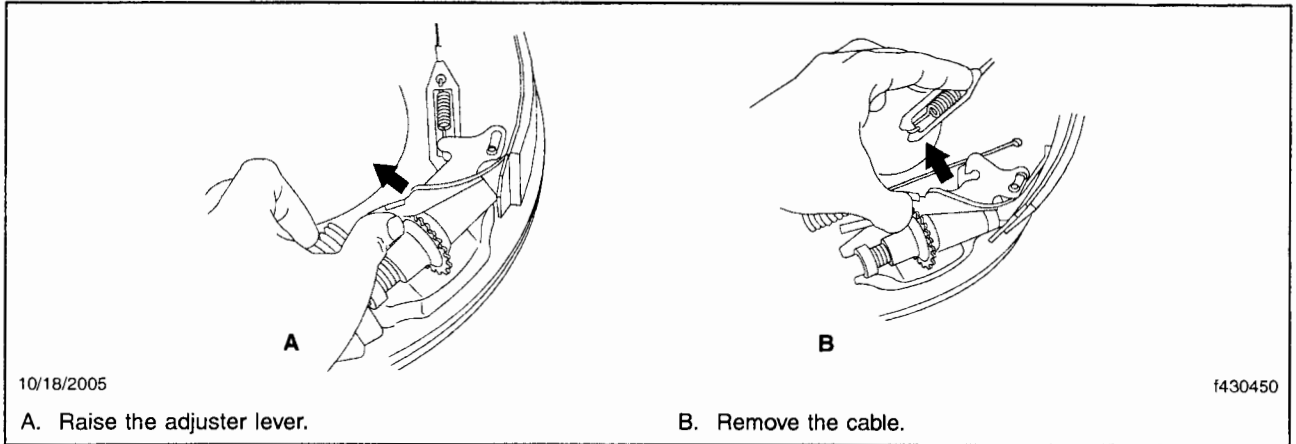

Fig. 5, Adjuster Cable Removal
9. Detach the adjuster cable from the adjuster lever. See **Fig. 5**.